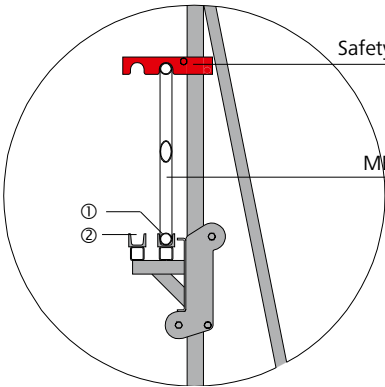

Fig. 28.3
The lift truck has a safety mechanism against uplift and tilting (Fig. 28.3 and 28.4). The mechanism is attached to the top of the MEP frame. The height of the lift truck is adjusted with its jack and gear rack.
- When transporting the unit, the MEP frame must be secured (Fig. 28.3).